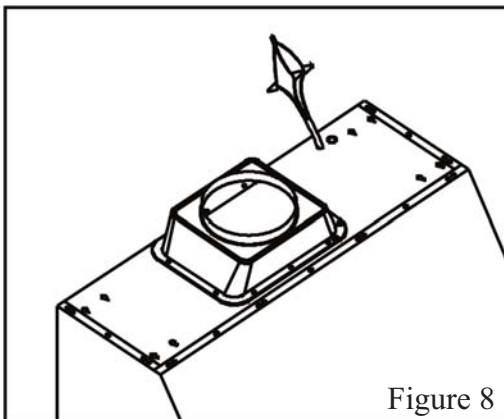

Figure 8
4. Connect the range hood to a designated standard outlet (120-Volt, 60Hz, AC only) or cut off the plug and connect three wires (black, white and green) to house wires and cap with wire connectors. Connect according to colors (i.e. black to black, white to white, and green to green) as shown in Figure 8.